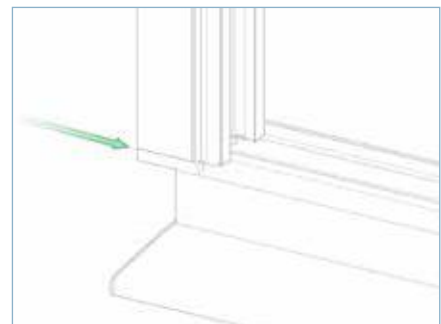

FIG 4B
- ▶ 4.5. Using a rubber mallet, gently tap the jambs in to the track as shown in FIG 4B.